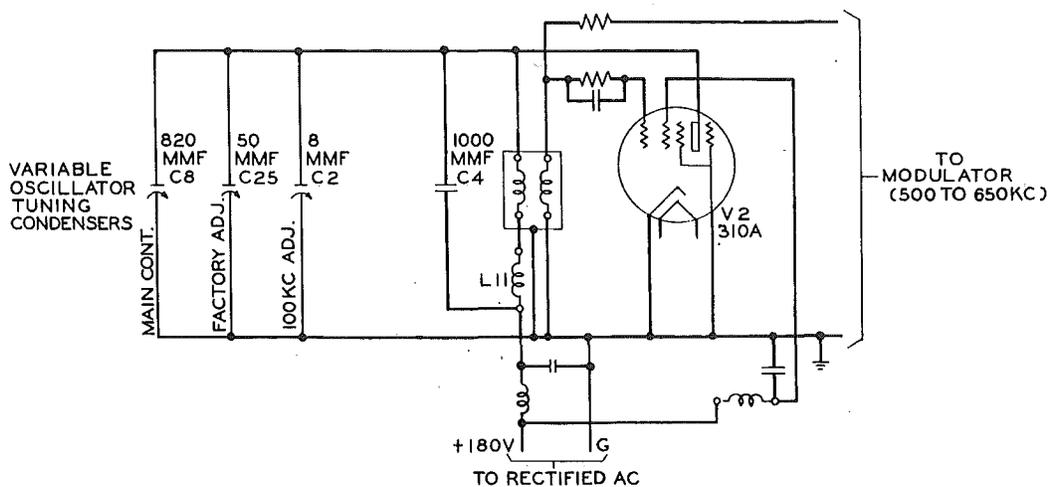

Fig. 5 - Schematic of Variable Oscillator.
2.15 In order to minimize the adverse effects of temperature variations, coils and condensers with low temperature coefficients have been used in the tuned circuits of both local oscillators. The stator and rotor plates of the main control condenser C8 shown in Fig. 5 are alternatively invar and aluminum in order to reduce temperature effects on the output frequency. In addition, the fixed condenser C3 which constitutes the bulk of the tuning capacity is so designed that it has a negative temperature coefficient and thus tends to compensate for the positive coefficient of the air core oscillator coil.
2.16 The schematic circuit of the variable oscillator is shown in Fig. 5. As will be noted, the general circuit arrangement is similar to that of the fixed oscillator.